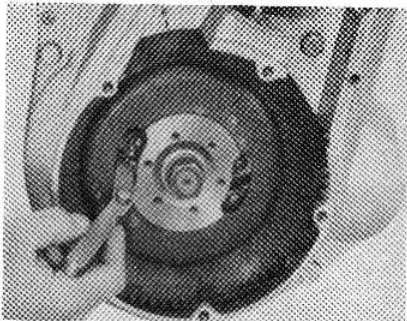

Fig. 2—Breaker points can be adjusted through flywheel timing windows as shown. Timing is correct when timing marks on flywheel align with "F" marks on housing.
**IGNITION AND TIMING.** Breaker point gap, on models so equipped should be 0.3-0.4 mm (0.012-0.016 inch). Points can be adjusted after removing recoil starter, fan drive pulley and "V" belt; by working through flywheel windows as shown in Fig. 2. All models